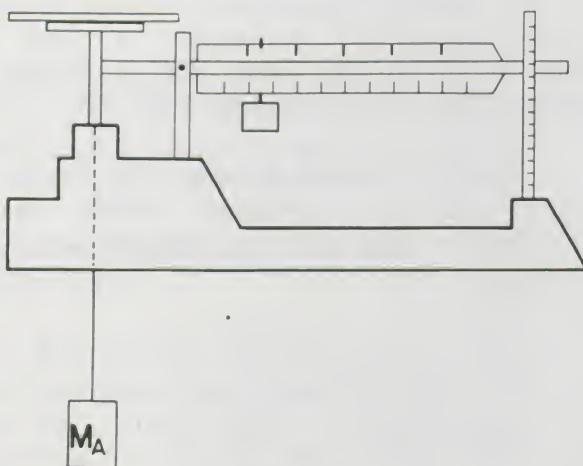

Figure 18.
Using Archimedes' Principle, a balance can be used as illustrated in Figures 18 and 19.
- With the balance supported over the table, hang the object in question from the balance arm, as shown in Figure 18, and find its mass in air,  $M_A$ .